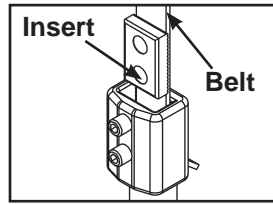
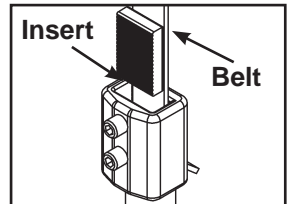

Figure 3A
Figure 3B
- D. Verify belt and insert are installed properly, as shown in Figure 3A. **NOTE:** Do not install the insert backwards as shown in Figure 3B.